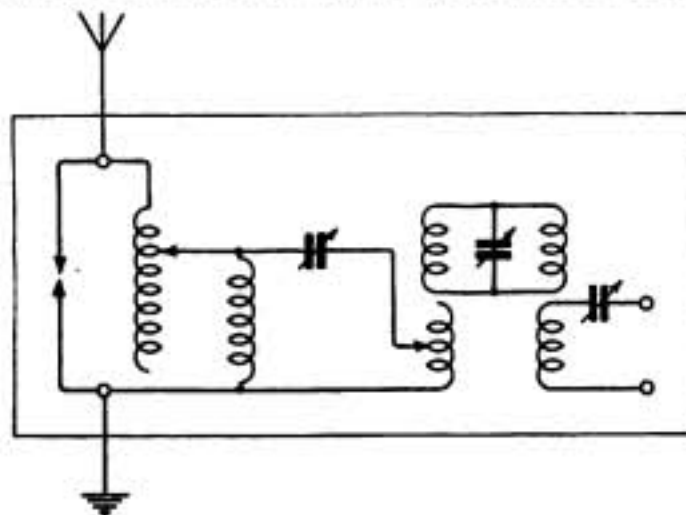

Fig. 4.
Fig. 4, which is simplified by the omission of the switching arrangements. (4) Not suitable for use in this way, as it was designed for use with a magnetic detector, which has a low resistance. We should recommend dismantling, and re-arranging the parts to form a modern tuner.